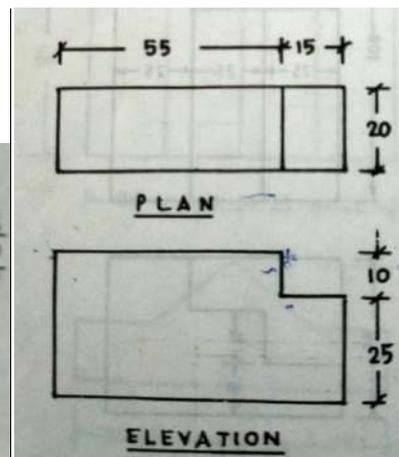

Fig. 2
4. Draw the Isometric drawing of an object whose Orthographic projections are given in **Fig. 2**